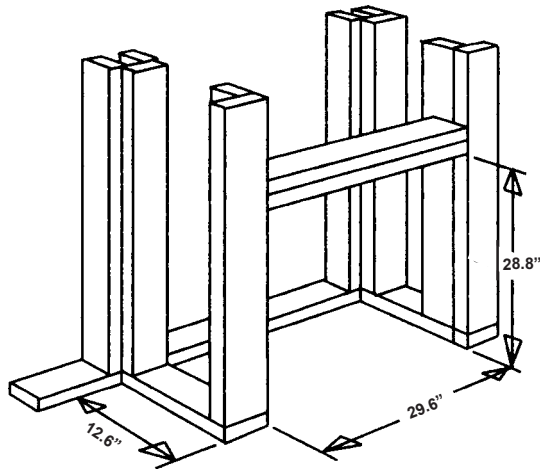

FIGURE 3
4. Use studs to frame an opening of 29.6" wide X 26.4" high (75cm wide X 67cm high) allowing a depth of 12.6" (32cm). (Refer to FIGURE 3 as an example.)